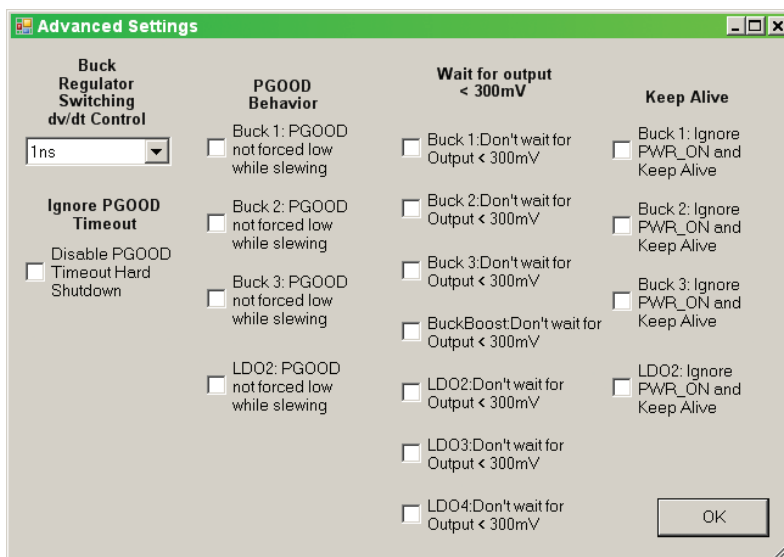

Figure 5. DC1808B-A (LTC3589EJ-1) Advanced Settings Form
- The Advanced Settings form (Figure 5) is brought up by pressing the Advanced Settings button on the LTC3589 form.
This button brings up the Advanced Settings form (Figure 5), which allows the control of several less used bits. Any changes made in this form will immediately be reflected in the appropriate command registers on the LTC3589 form. However, if Auto Update Enabled is disabled, the value will not be sent to the LTC3589EJ until auto update is re-enabled or Update All is pressed.